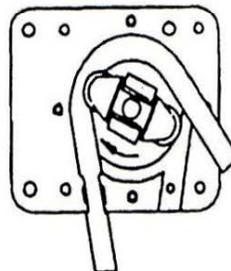

FIG. 3
8. Continue to run at slowest speed carefully feeding tube into race as the rollers turn. (Figure 3)